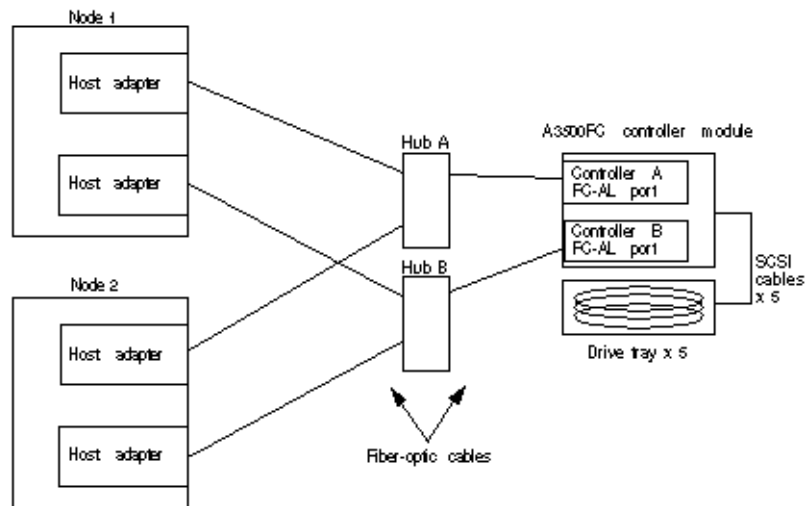

FIGURE 1–5 Cabling a Storage System: An Example
- If you are adding a StorEdge A3500 system, connect the differential SCSI cable between the node and the controller module, as shown in Figure 1–3. Make sure that the *entire* SCSI bus length to each enclosure is less than 25 m. This measurement includes the cables to both nodes, as well as the bus length that is internal to each enclosure, node, and host adapter.
- If you are installing a StorEdge A3500FC storage system, see Figure 1–4 for an example about how to cable a StorEdge A3500FC storage system. In this example, Node 1 connects a StorEdge A3500FC controller module.
- If you are adding a StorEdge A3500 controller module, connect the differential SCSI cable between the node and the controller module, as shown in Figure 1–3. Make sure that the *entire* SCSI bus length to each enclosure is less than 25 m. This measurement includes the cables to both nodes, as well as the bus length that is internal to each enclosure, node, and host adapter.
- If you are installing a StorEdge A3500FC controller module, see Figure 1–5 for an example about how to cable a StorEdge A3500FC storage system. In this example, two nodes connect to a StorEdge A3500FC controller module.